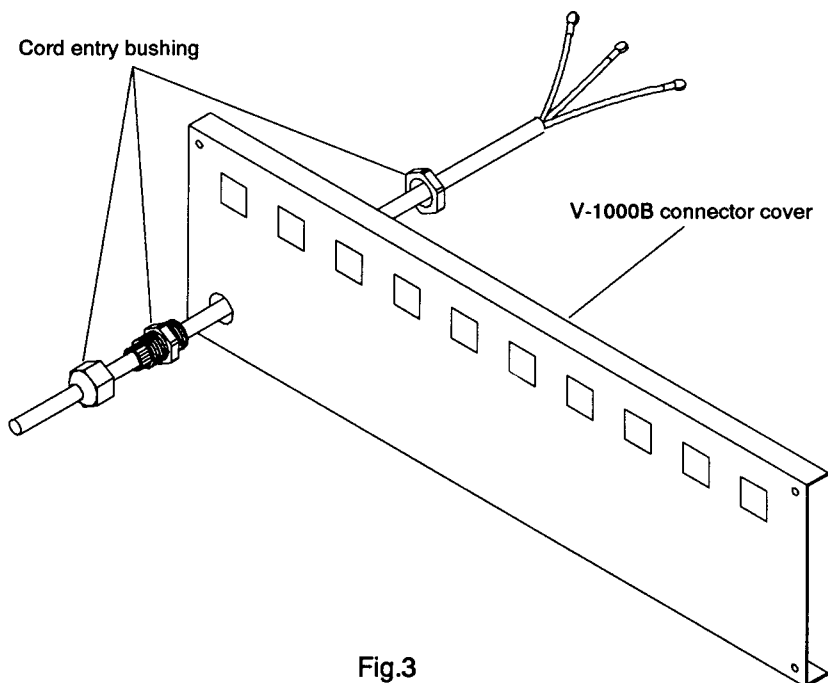

Fig.3
5. Run the power cable through cord entry bushings and the V-1000B's connector cover, then fit the bushings into the connector cover. (Figure 3)